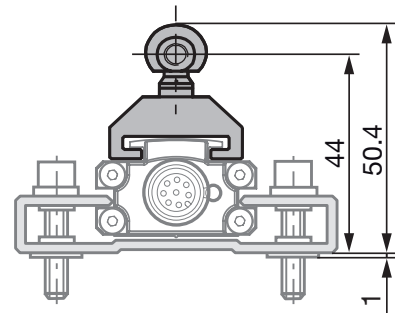
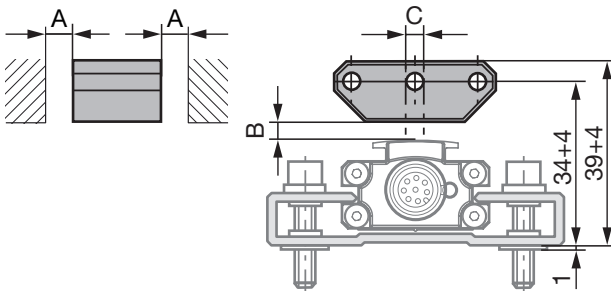

Fig. 4-1: Dimensions and distances with BTL5-F-2814-1S magnet
Fig. 4-3: Dimensions and distances with BTL5-P-3800-2 magnet
The micropulse transducer in profile housing is suitable both for floating, i.e. non-contacting magnets (see Figures 4-3 to 4-7) and for captive magnets (see Figures 4-1 and 4-2).
- Ensure that the distance A between parts made of magnetizable material and the magnet is at least 10 mm (see Figures 4-3 to 4-7).
- Maintain the following values for distance B between the magnet and transducer and for center offset C (see Figures 4-3 to 4-7):
Tab. 4-1: Distance and offset for magnets (see Figures 4-3 to 4-7)